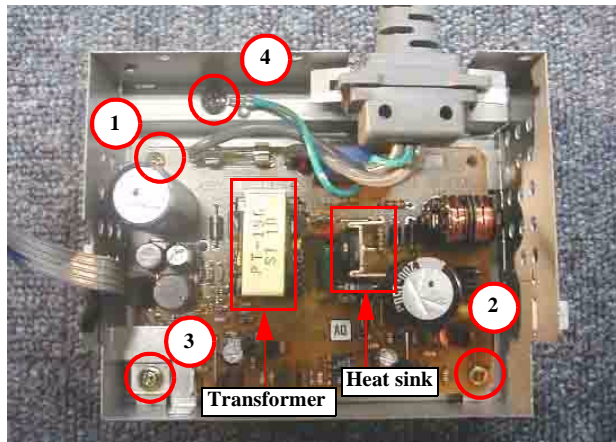

Figure 4-27. Tightening procedure for the PSB/PSE board
- Make sure to place three wires of the AC cable away from the Transformer and the Heart sink on the Power supply board. (Refer to Figure 4-27)
- Make sure to set the Power supply radiator in the correct position. (Refer to Figure 4-27)